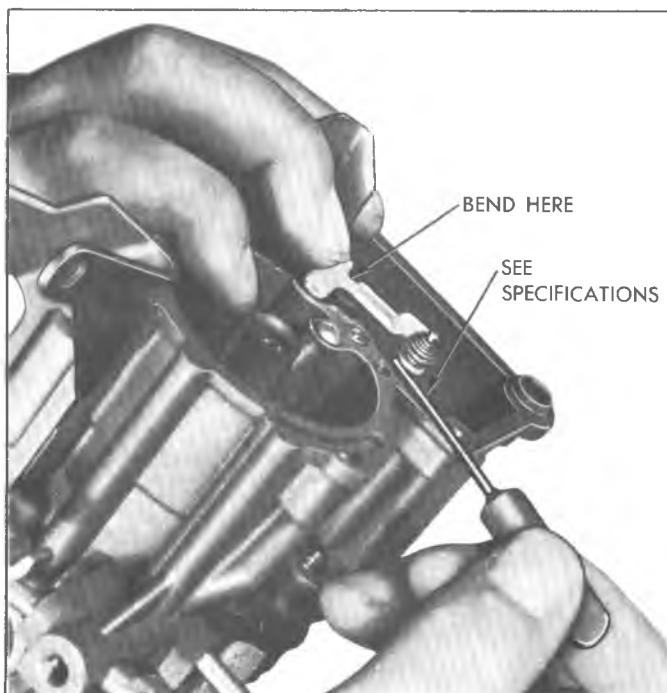

Fig. M9-Metering Rod Adjustment
Metering Rod Adjustment (Fig. M9)
2. With throttle valve completely closed, apply pressure to hanger directly above power piston and hold piston down against its stop (See Fig. M9).